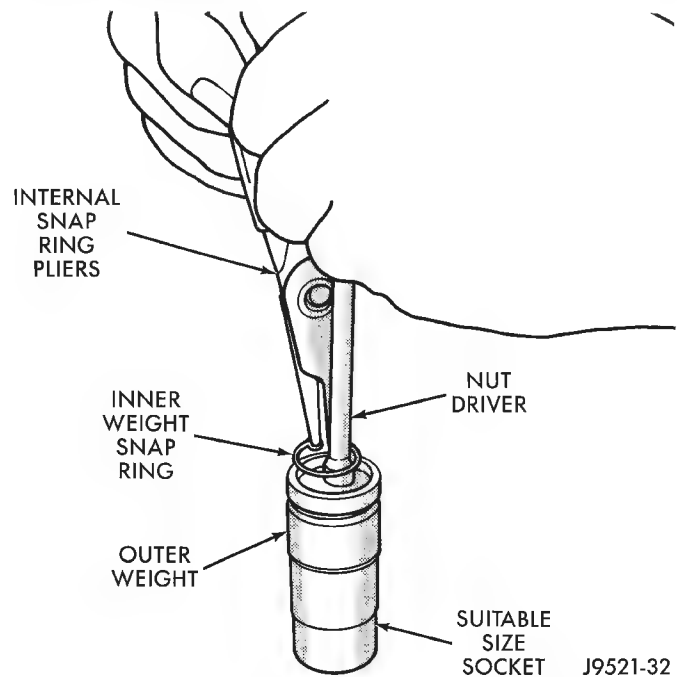

Fig. 18 Two-Stage Inner Weight Snap Ring Removal/Installation
- (5) On 30RH, disassemble **two-stage** governor weight as follows:
- Position weight assembly on suitable size socket (Fig. 18).
- Push inner weight downward with nut driver. Then remove inner weight snap ring with Snap Ring Plier Tool C-3915 (Fig. 18).
- (6) On 32RH, disassemble **three-stage** governor weight as follows: